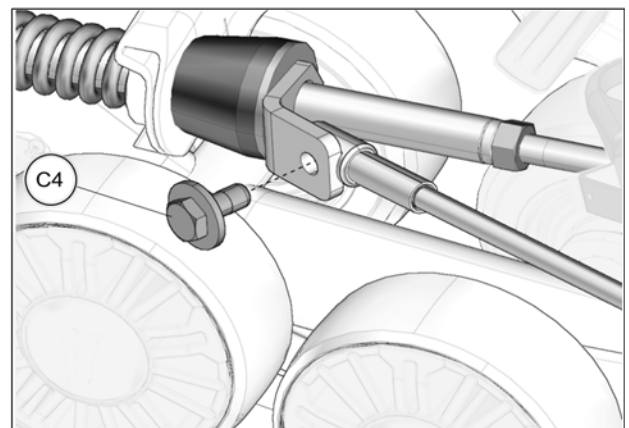

Fig. 26
17. Reverse steering wheel a little to be able to bolt support plate and cable together. Tighten provided bolt (C4) to 35 N•m [24 lb•ft]. See Fig. 26. Repeat steps on right side.